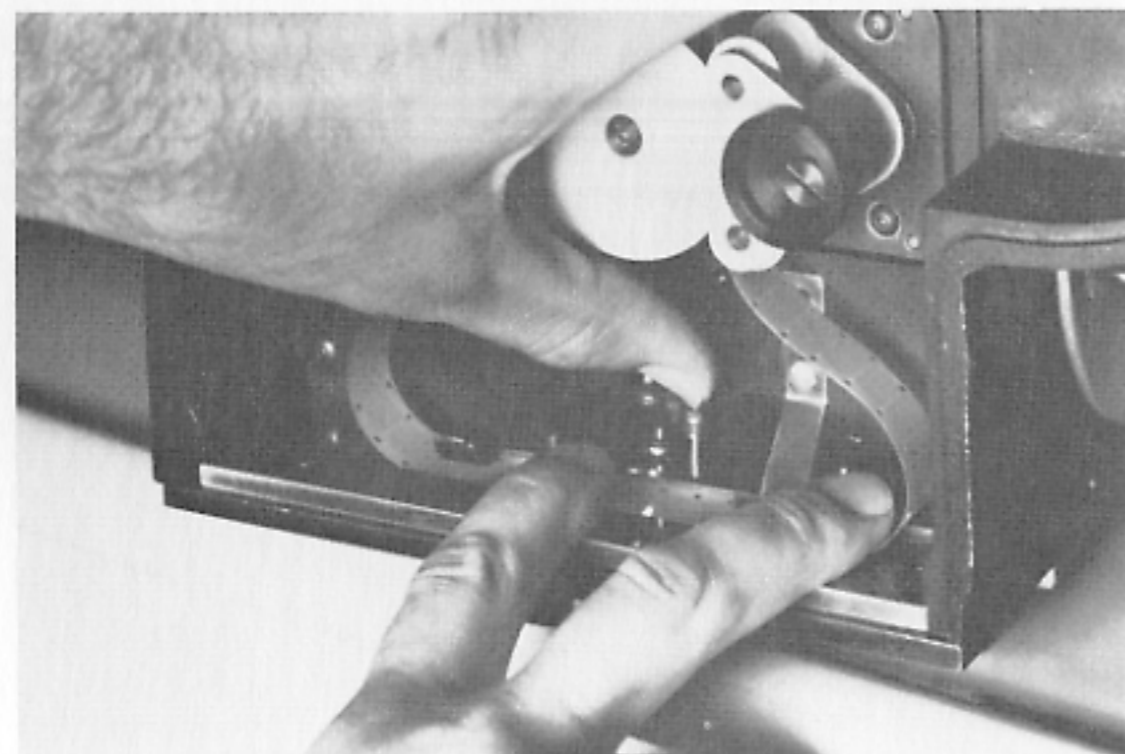

figure 4. Lifting intermittent registration pin to thread camera.
- Fig. 4 Lifting Registration Pin.